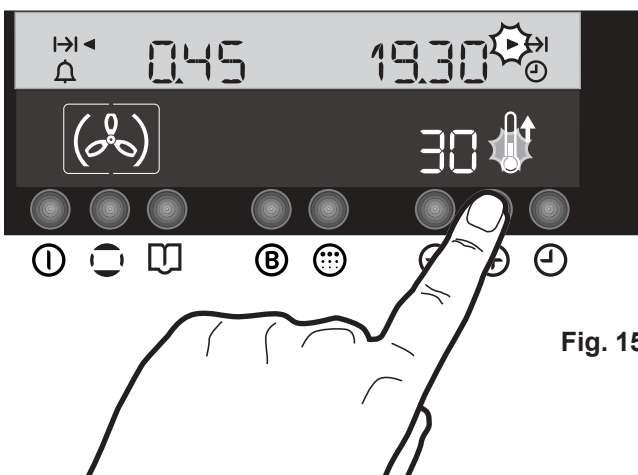

Fig. 15
3. Within 5 seconds, press button  to select the required end of cooking time, which is shown at the right hand of the time display (Fig. 15).